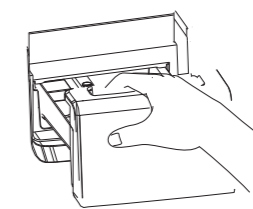

Figure 1
- ① Outwards pull the detergent dispenser box to the end, as shown in Figure 1.
- ② Press the middle "PUSH" mark and slightly press it downwards to take the dispenser box out.
- ③ Clean the dispenser box and the siphon cap with clear water.
- ④ Re-buckle the siphon cap and horizontally push the dispenser box inwards and close it.